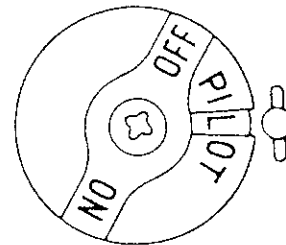

Figure 1
2. Open fryer door and rotate gas valve knob to PILOT position. See Figure 1.